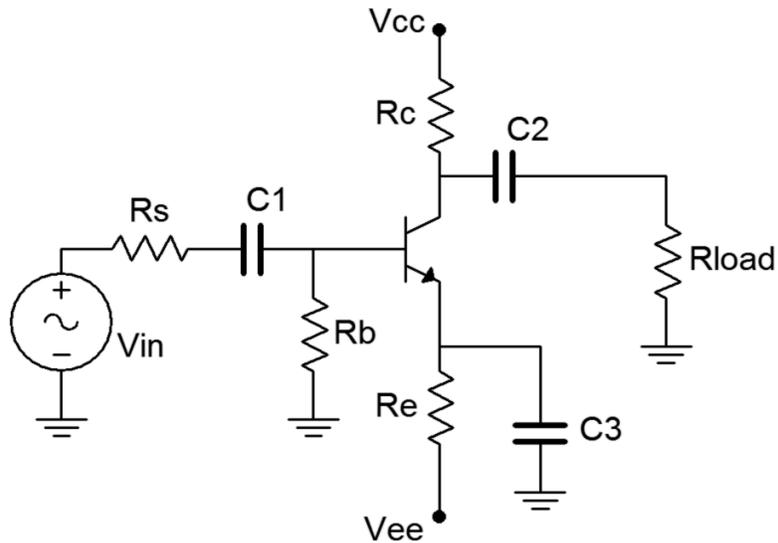

Figure 1
1. The circuit of Figure 1 is the same as the one used in the Common Emitter Amplifier exercise. The values used were  $V_{cc} = 15$  volts,  $V_{ee} = -12$  volts,  $R_s = 10$  k $\Omega$ ,  $R_b = 33$  k $\Omega$ ,  $R_e = 22$  k $\Omega$ ,  $R_c = 15$  k $\Omega$ ,  $R_{load} = 20$  k $\Omega$ ,  $C_1 = C_2 = 10$   $\mu$ F and  $C_3 = 470$   $\mu$ F. It was shown that the amplifier produced considerable voltage at 1 kHz. Build the circuit using these values and verify that it is operating correctly by setting  $V_{in}$  to a 40 mV peak-peak sine wave at 1 kHz and measuring  $V_{out}$ . Compute the voltage gain and record these two values in Table 1.